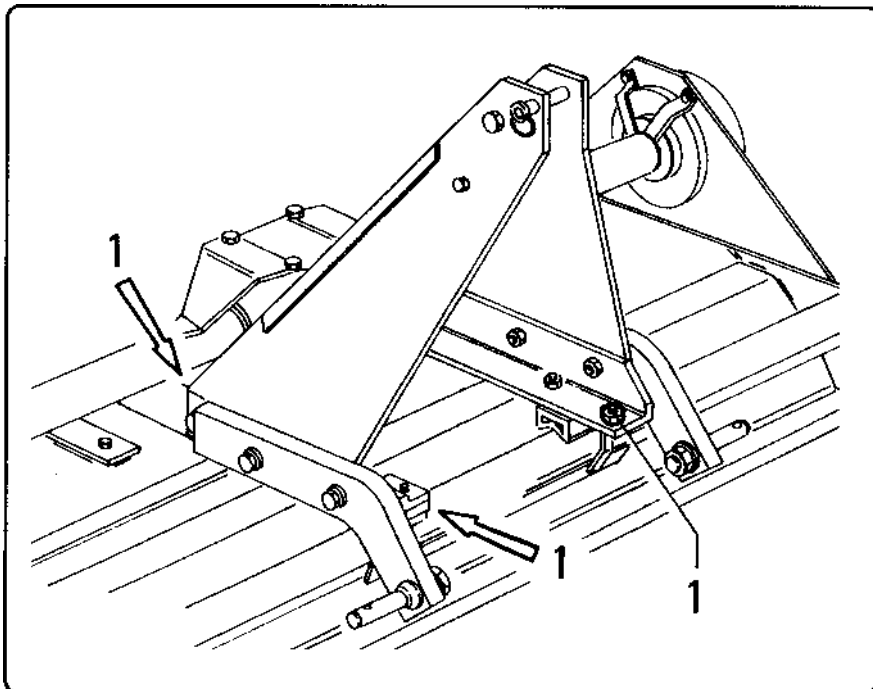

fig. 5.6.3
- loosen nuts "1" fig.5.6.3 without completely unscrewing them.